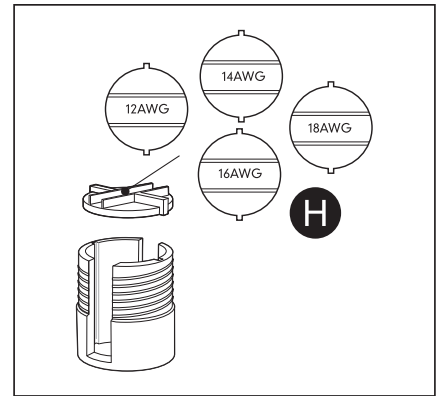

Fig. 4
2. Four (4) power cable adapter trays (H) are included. Each tray is marked accordingly: 12 AWG, 14 AWG, 16 AWG and 18 AWG. Select the tray that matches the gauge of the power cable as shown (Fig. 4).